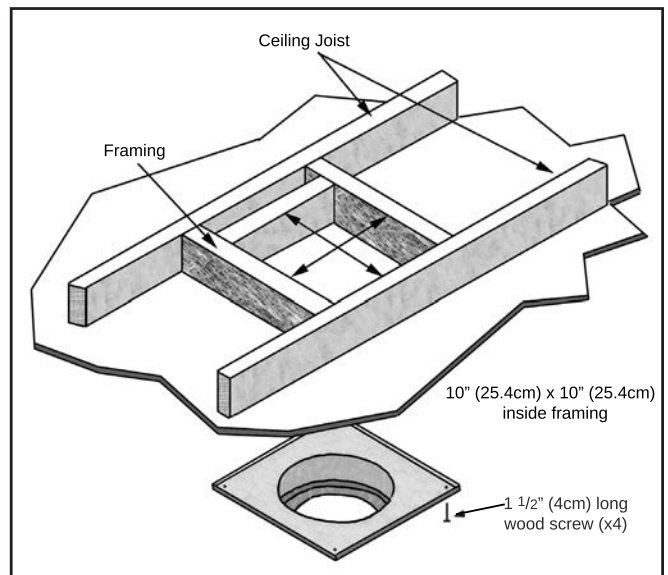
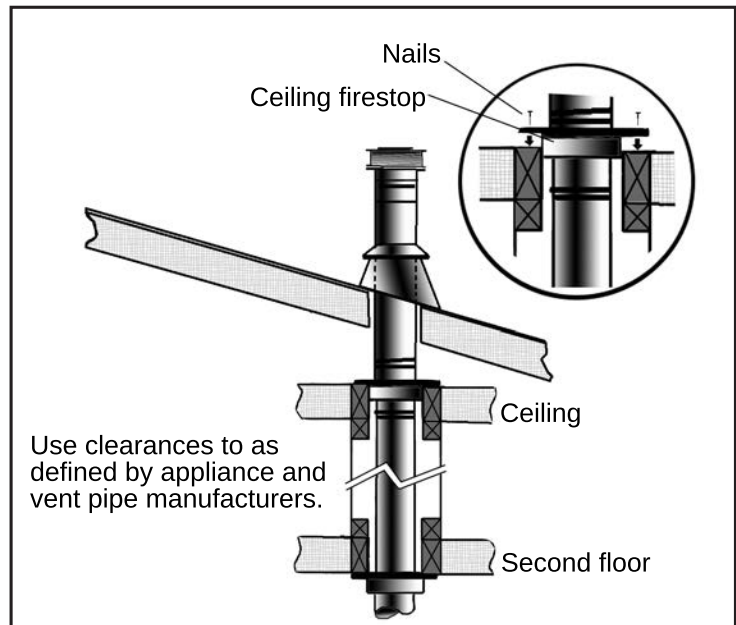

Figure 42: Wall Framing for Hole for Vertical Installation.
Figure 46: Multi-Story Vent Pipe Installation.
3. To install the Round Support Box/Wall Thimble in a flat ceiling, cut a 10" square hole in the ceiling, centered in the hole drilled in Step 2. Frame the hole as shown in Figure 42.
- (c) For multi story installations. A ceiling firestop is required at the second floor, and any subsequent floors (see Figure 46). The opening should be framed to 10" (25.4 cm) x 10" (25.4 cm) inside dimensions, in the same manner as shown in Figure 42.